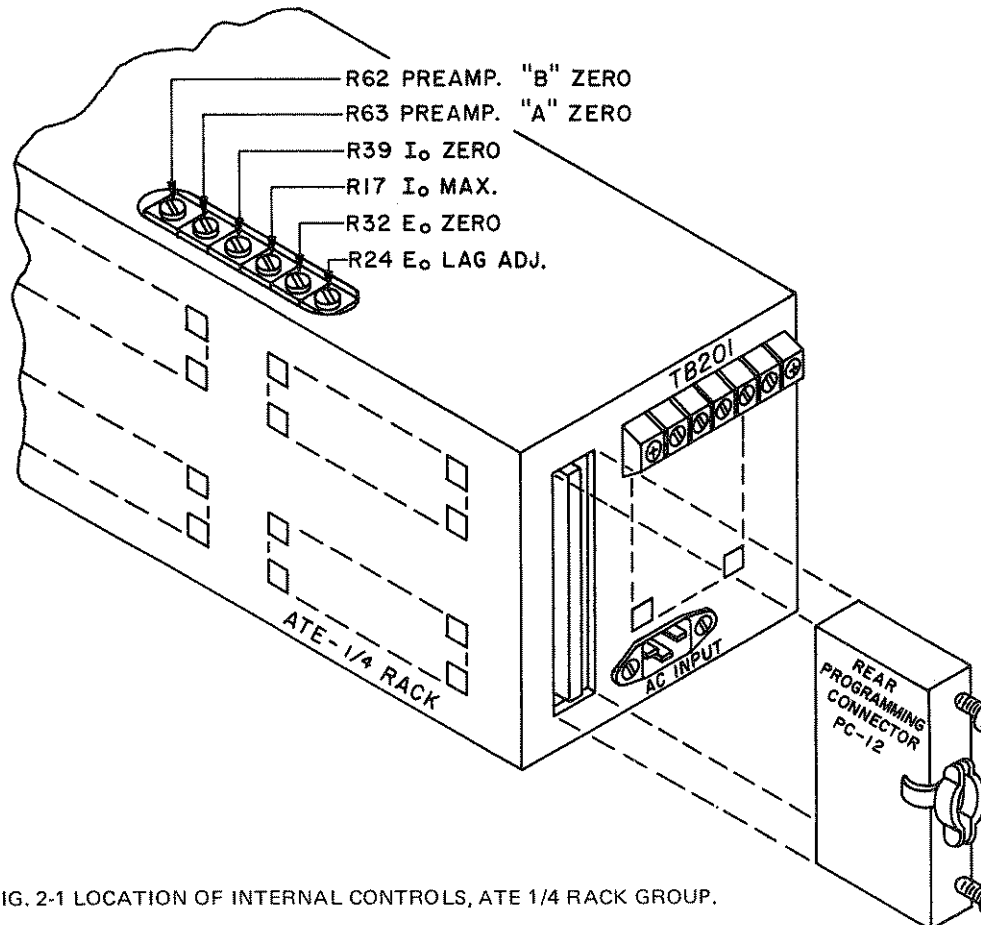

FIG. 2-1 LOCATION OF INTERNAL CONTROLS, ATE 1/4 RACK GROUP.
- INTERNAL CONTROLS: Refer to FIG. 2-1 and Table 2-1.
- 2-19 LAG NETWORK ADJUSTMENT. The ATE power supply operating in the "fast" mode, is dynamically stabilized by means of an internal lag network (E_o LAG, R24, see FIG. 2-1 for location). This control should be adjusted, for each application, by monitoring the load with an oscilloscope and turning the LAG control for best output response and maximum dynamic stability under all operating conditions.